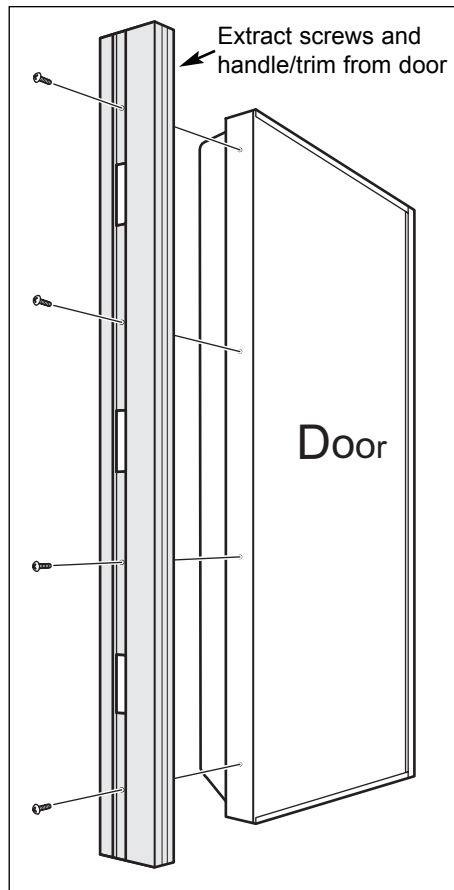

Figure 2-10. Handle/Trim Removal
- b. Extract mounting screws and handle/trim from door (See Figure 2-10).